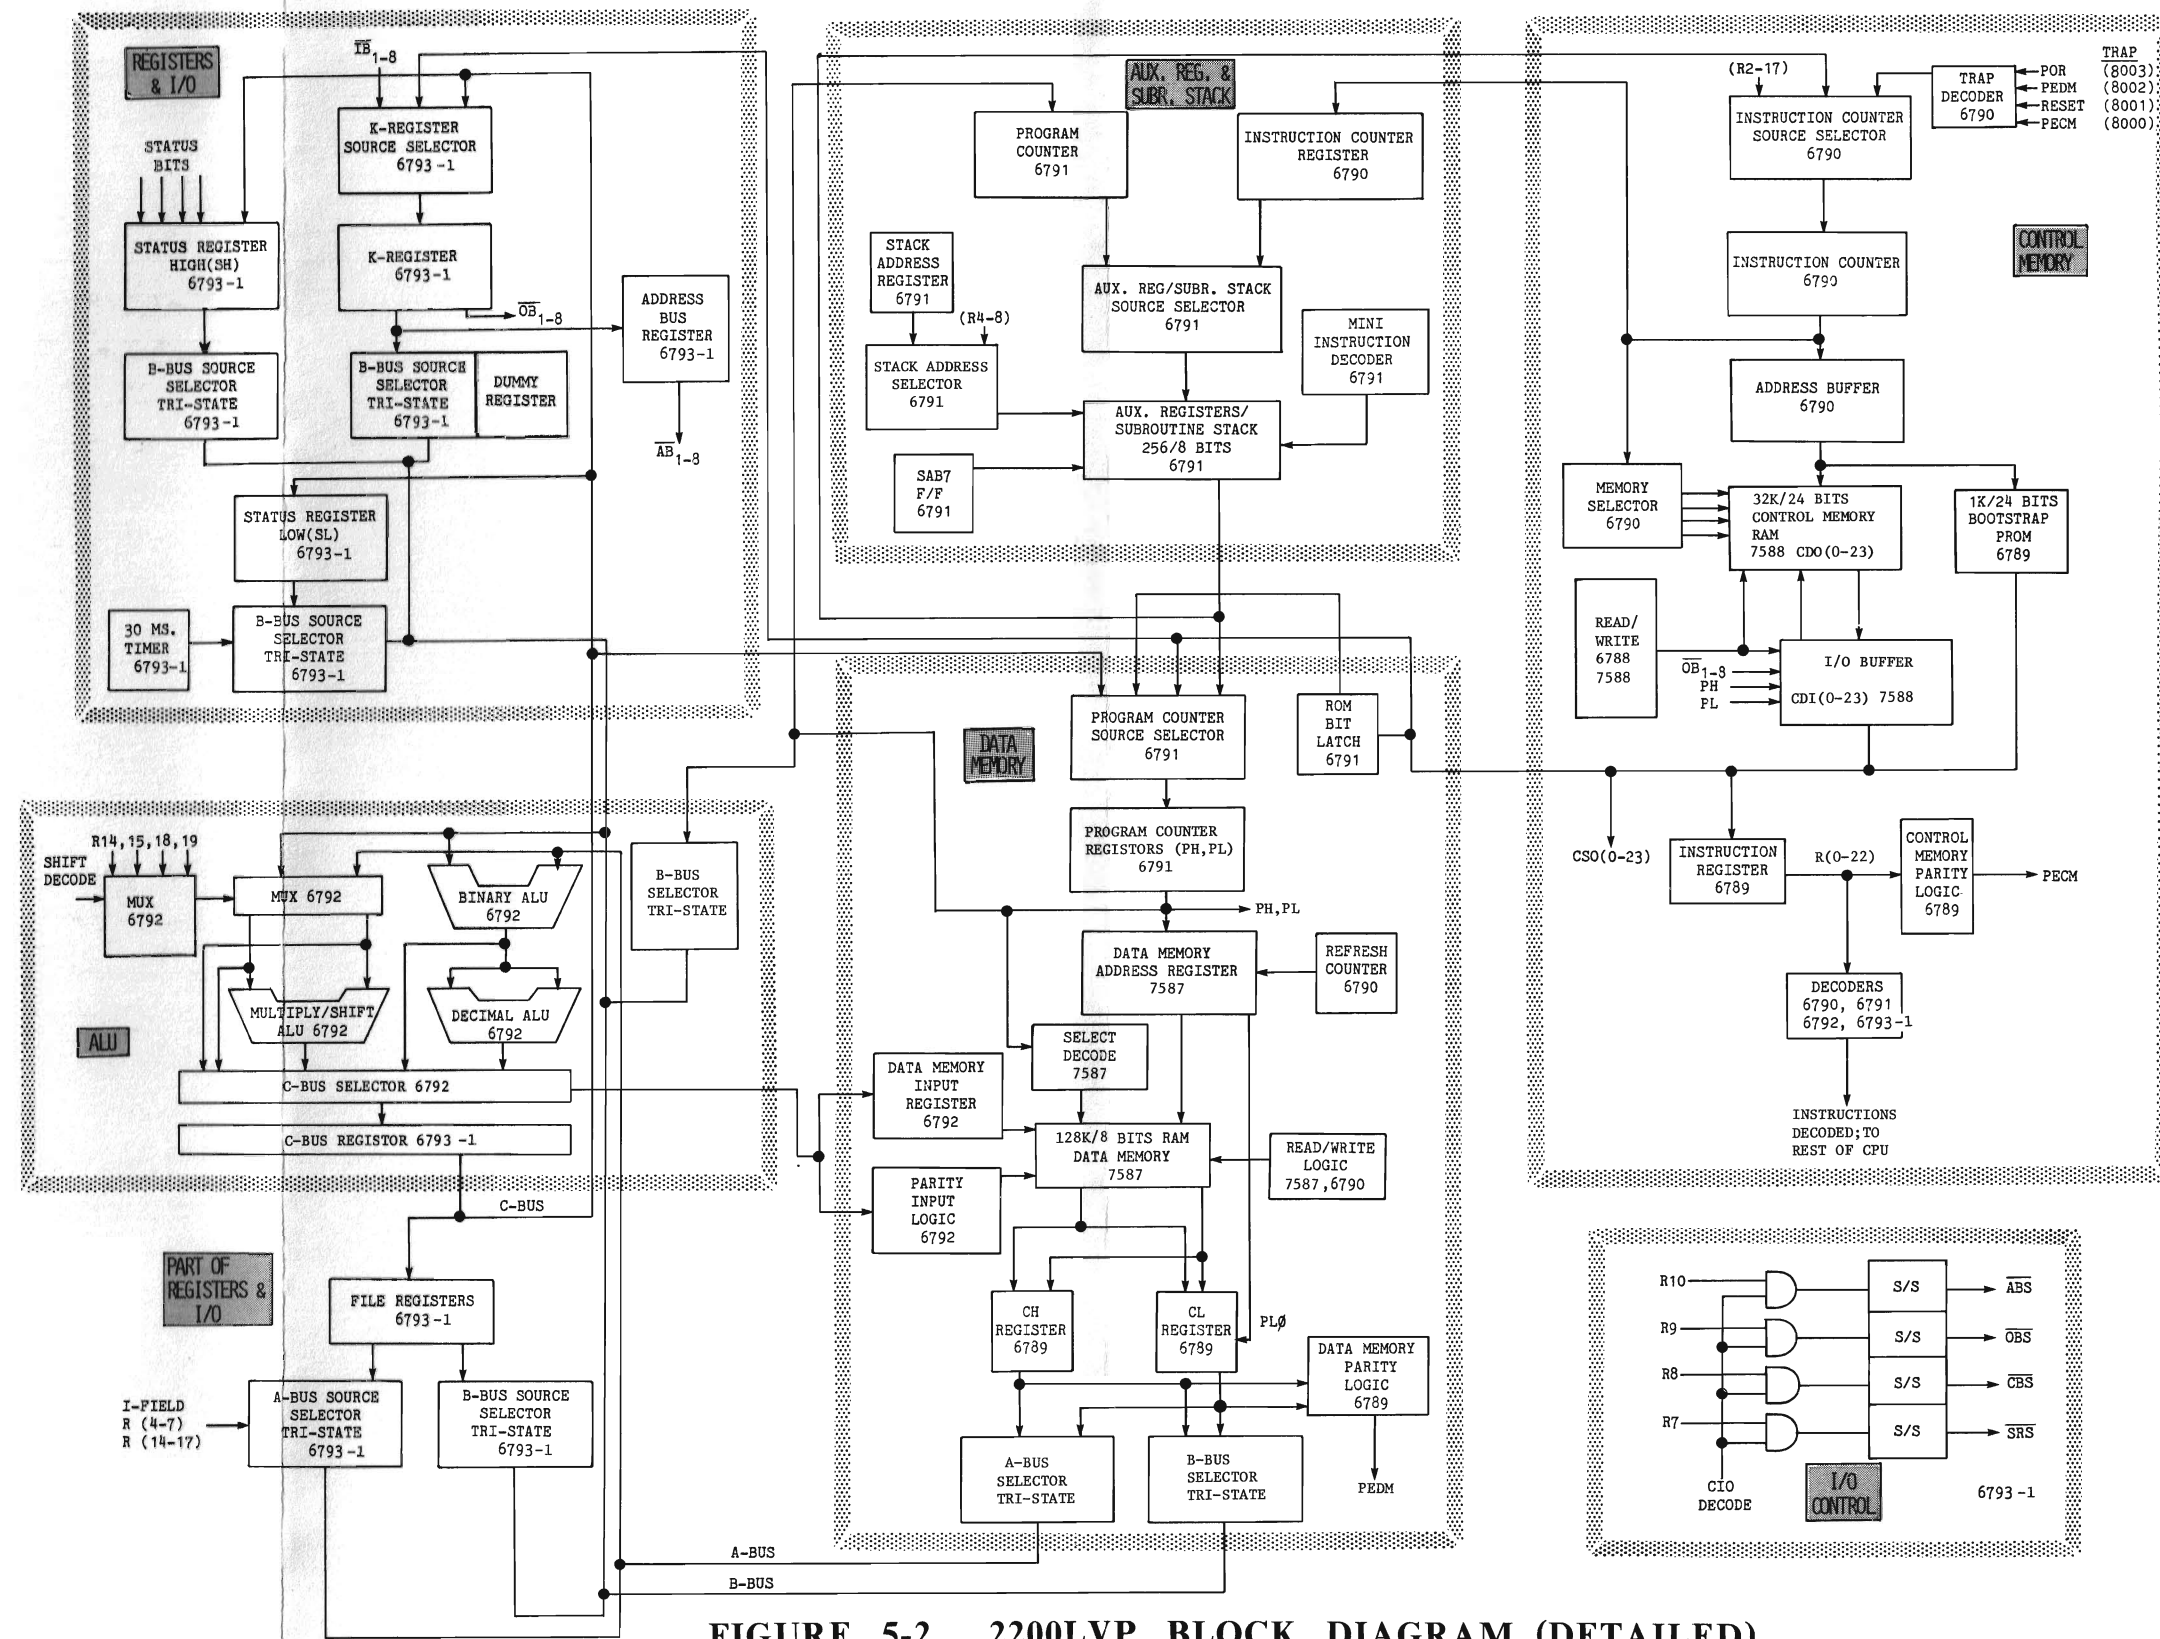

FIGURE 5-2 2200LVP BLOCK DIAGRAM (DETAILED)
5.4 2200LVP CPU BLOCK DIAGRAM THEORY--DETAILED (ref: FIGURE 5-2)